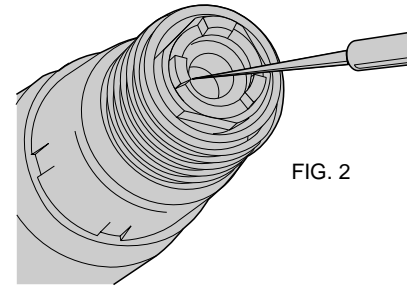

FIG. 2
3. Remove round clutch retaining rings with a very small screwdriver (see Figure 2).